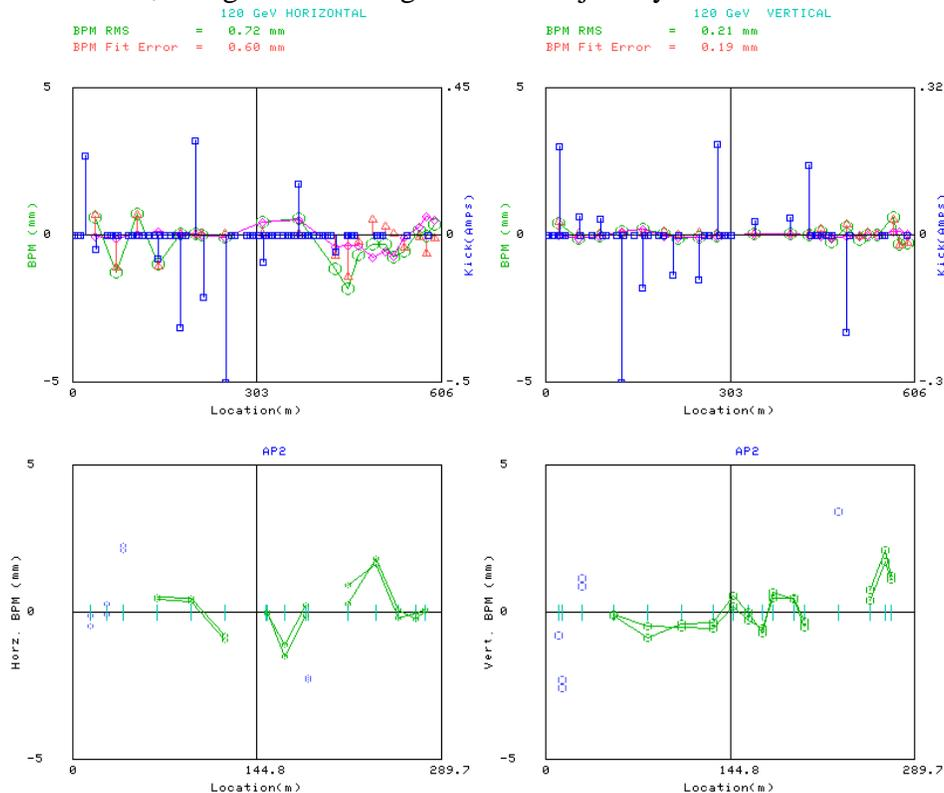

Figure 3. Graphics Screen for the Oscillation Overthruster
The graphics display of the program has four screens as shown in Figure 3. The left screens are for the horizontal plane and the right screens are for vertical. The bottom screens show the BPM orbit of the beam line that is currently being measured. The blue markers (shown in Figure 3) show the BPMs that are masked-out (masked-out means not used in the calculation of the trim correction). The program will acquire a number of BPM trajectories and show each trajectory on the plot. Once the program has achieved the specified number of trajectories, it displays the average of the trajectories in a thick magenta trace (not shown in Figure 3). Once the average trace has been found, the trim corrections will be computed. The top screens show the results of the trim corrections. The traces shown on the top screens are the average measured BPM trajectory (green), the trim correction (blue in Figure 3 but yellow on the computer screen), the computed negative trajectory that the trim correction would produce (magenta), and the computed left-over orbit after the trim correction is applied (red). While the program is computing the trim corrections, it begins measuring the BPM trajectory of the other transfer line.
- The **BPM Max Cor** setting. If the BPM rms value (shown on the top panels of Figure 3) is larger than this value, the program will assume something has gone wrong upstream of the beam line and not send out trim corrections. The BPM rms value is the standard deviation of the difference between the measured BPM trajectory and the reference trajectory.
- The **BPM Min Cor** setting is the minimum difference between BPM rms value and the BPM fit error before the program will send out a trim correction. The BPM fit error number is the standard deviation of the difference between the measured BPM trajectory and the negative of the trajectory provided by the trim solution. (The BPM fit error is shown as the red lines in the top panels of Figure 3.)
- The **Trim % Cor** setting is the percentage amount of the trim solution calculated and shown in the top panels of Figure 3 that will be sent out to the trims. A value of 100% will mean that the full amount of the trim correction will be sent out. A value of 0% will mean that no changes to the trims will be sent out.